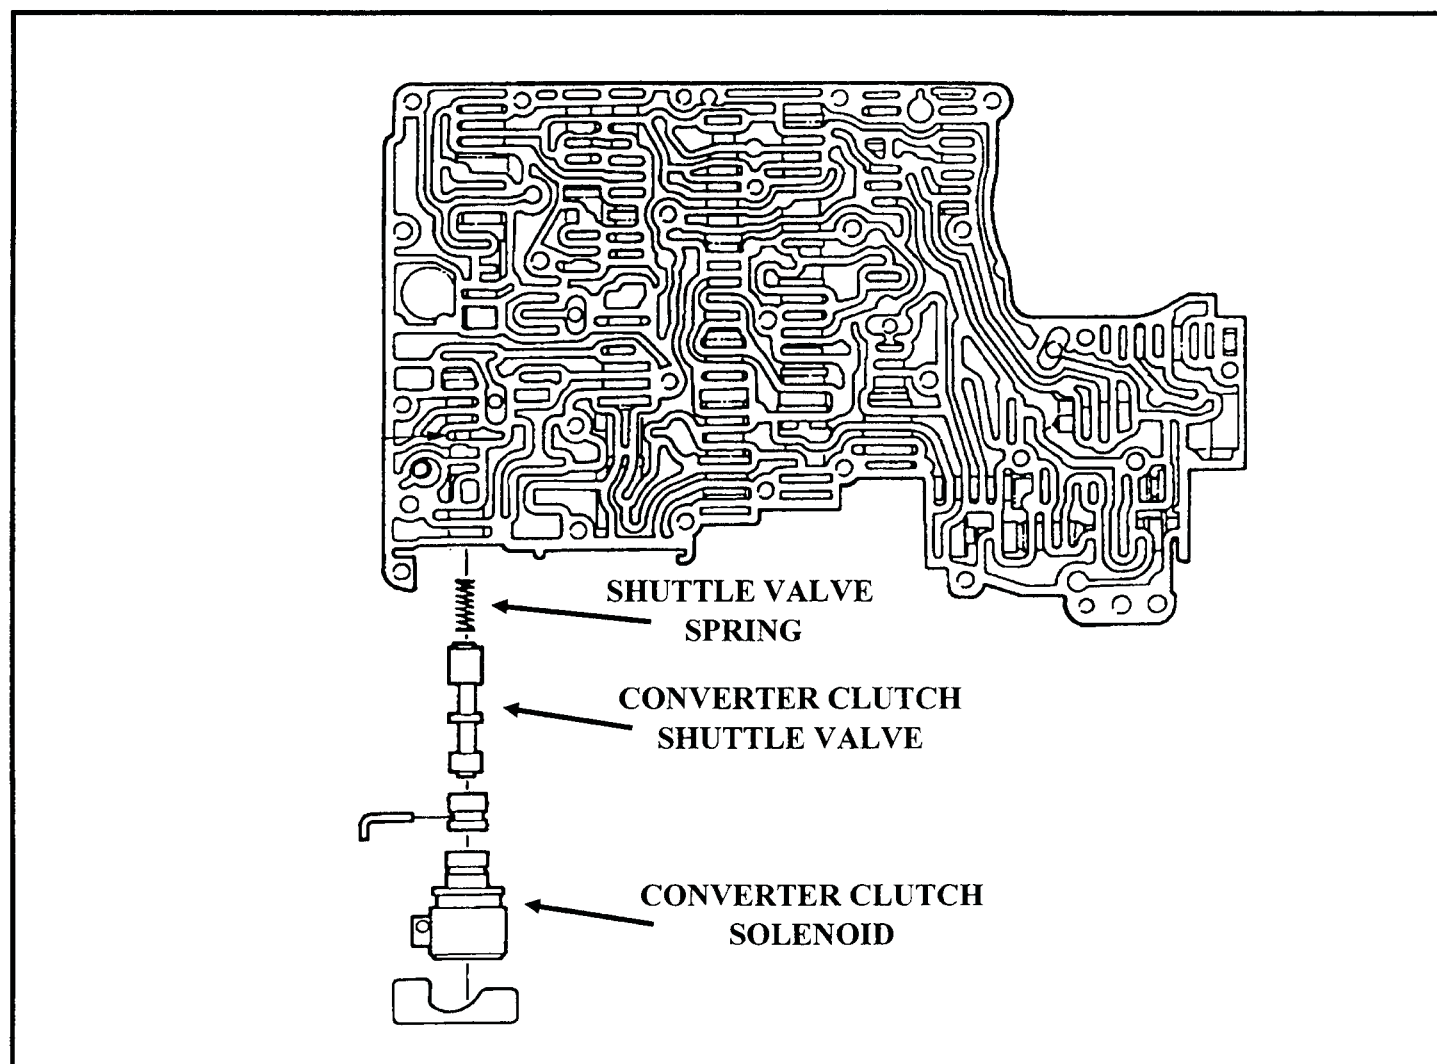

Figure 81
**CORRECTION:** Replace the broken converter clutch shuttle valve spring with updated spring (See Figure 81).